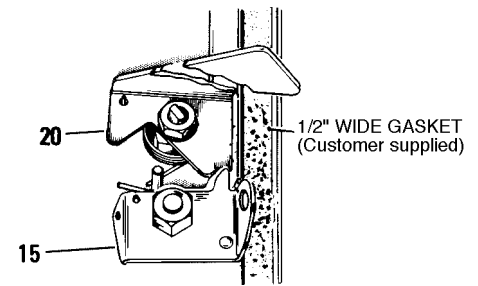

Figure 7 Latch Mechanism
1. Attach 1/2" wide gasket around inside of door as shown in Figure 7.
2. Using rivets (item 23), rivet spacers (item 3) and roller latch arms (item 4) to cover latch bar. Using rivet (item 27), rivet latch bracket (item 15) to cover latch bar. ROLLER LATCH ARMS AND BRACKET MUST BE FREE TO ROTATE.